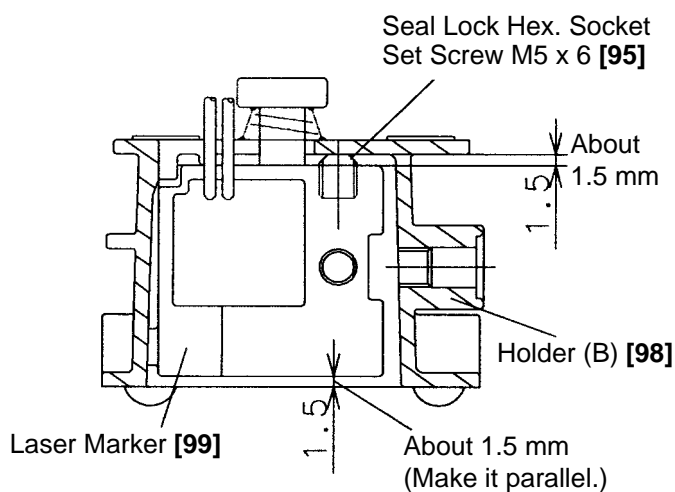

Fig. 68-1. Cross section viewed from the top
(5) When replacing the Laser Marker [99], screw the two Seal Lock Hex. Socket Set Screws M5 x 6 [95] into the Laser Marker [99]. To adjust the accuracy of the Laser Marker [99] easily, protrude the tips of the two Seal Lock Hex. Socket Set Screws M5 x 6 [95] about 1.5 mm from the Laser Marker [99] using the 2.5-mm hex. bar wrench so that Holder (B) [98] and the Laser Marker [99] become almost parallel as shown in Figs. 68-1 and 68-2. Refer to "11-10. Adjustment of Laser Marker Accuracy" for adjustment of the laser marker accuracy.